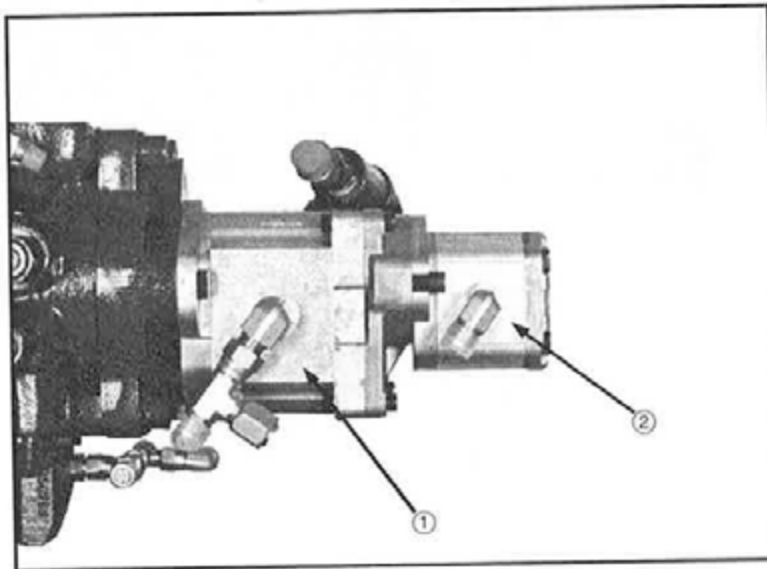

FIG 5.12
The front, larger gear pump (fig. 5.12, item 1) supplies only the solution pump. The rear, smaller gear pump (fig. 5.12, item 2) supplies power steering, boom controls, and mechanical agitation. Keeping these systems separate allows consistently even solution application if the operator activates any of the systems on the other pump.